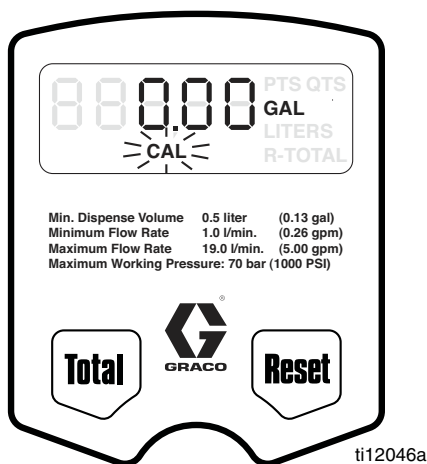

FIG. 12
- c. Press and hold Reset button again to display Calibration Menu. When this menu is displayed CAL blinks on the screen (FIG. 12).
Calibration (FIG. 12)